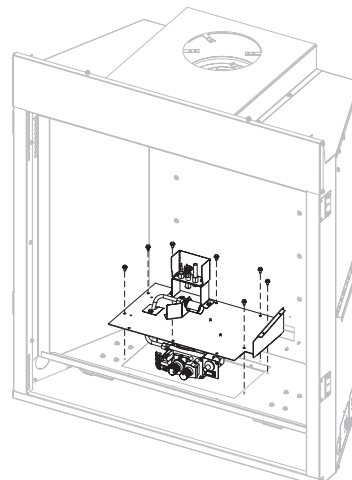

Figure 11
8. Remove ten screws and lift burner assembly. Disconnect gas line. Retain screws and burner assembly for reassembly. **See Figure 11.**
15. Reinstall the burner assembly and ten screws removed in step 8. **See Figure 11.**